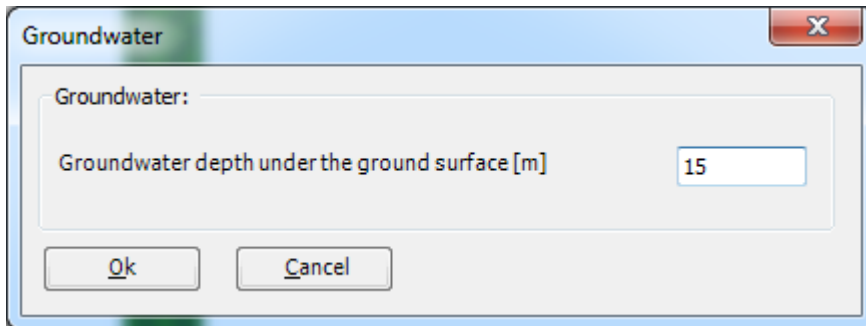

Figure 3.16 "Groundwater depth under the ground surface" edit box
- Double-click on the groundwater level. The corresponding edit box to modify the groundwater depth under the ground surface appears, Figure 3.16. To neglect the uplift pressure on the raft, groundwater level is chosen at anywhere under the raft basement